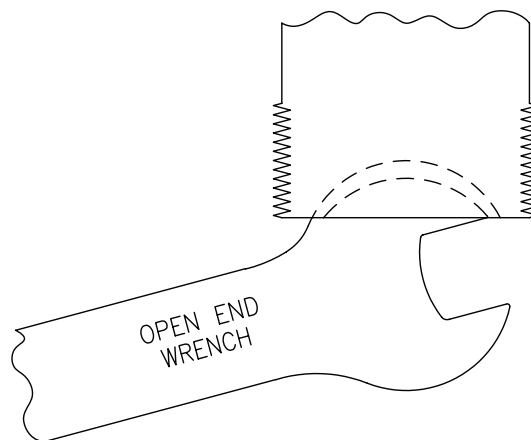

Figure 2.1
- Insert an open end wrench or similar tool into the slot in the bottom of the rotameter jack-screw. (See Figure 2.1.) Unscrew it, counterclockwise from the bottom. Remove the rotameter jack-screw.